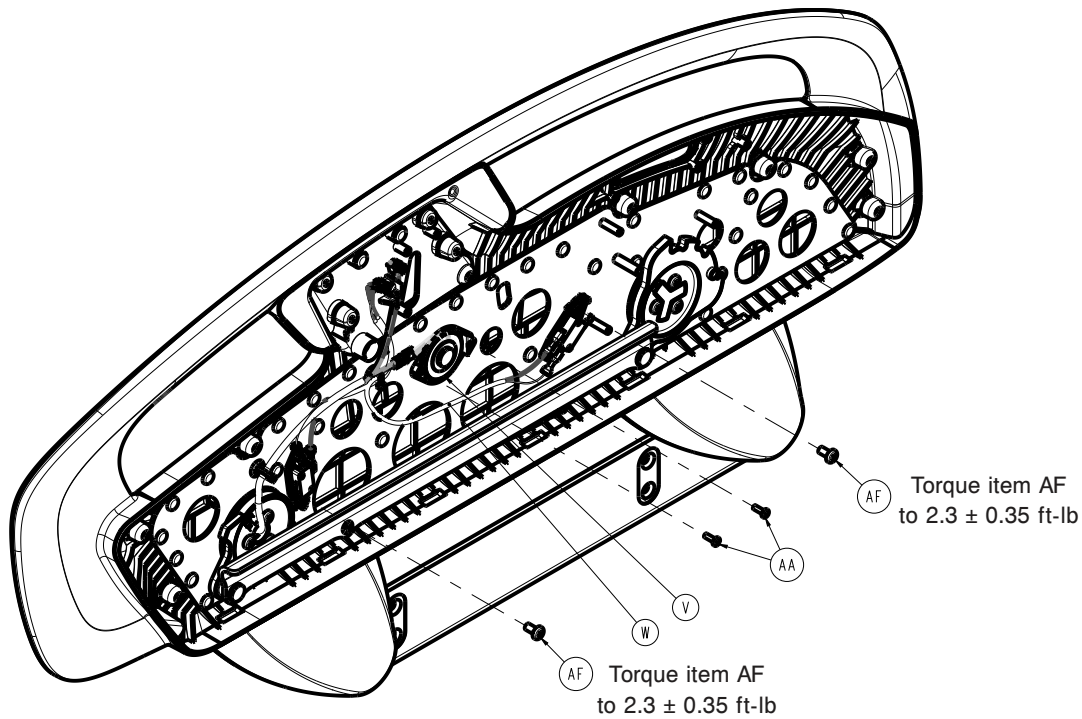

Figure 56 – Removing the speaker assembly
15. Using a T30 Torx driver, remove the screws (AF) that secure the siderail switch assemblies (W) to the siderail hoop (Figure 56). Pull out the cable retainer. Save and remove the switches.
10. Unplug both wires (black-NC2 of switch and red-COM of switch) connected to the siderail switch assembly (W) (Figure 56).
11. Using a T30 Torx driver, remove the screw (AF) that secures the siderail switch assembly (W) and bracket to the siderail frame (Figure 56).